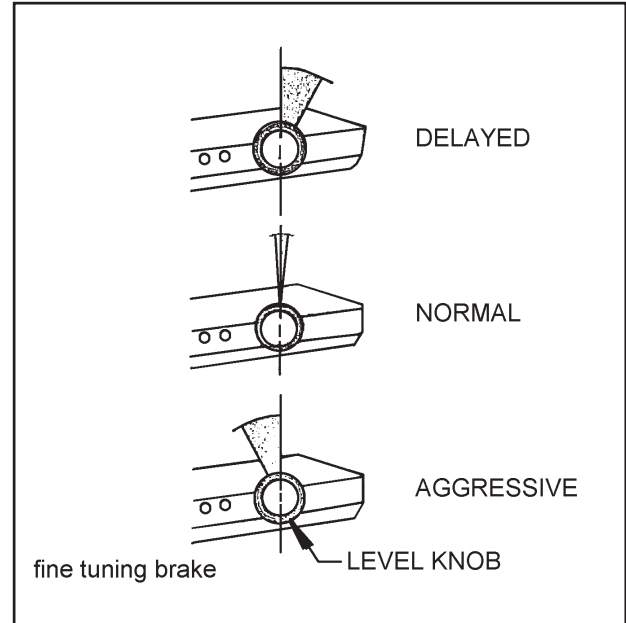

Figure 3-16 Fine Tuning Brake
- **IF BRAKES GRAB TOO MUCH: YOU HAVE AN AGGRESSIVE SETTING. TO CORRECT THIS CONDITION, ROTATE LEVEL KNOB CLOCKWISE, TOWARD YOU (SEE FIGURE 3-16).**
- **IF TRAILER TENDS TO PUSH TOWING VEHICLE: YOU HAVE A DELAYED SETTING. TO CORRECT THIS CONDITION, ROTATE LEVEL KNOB COUNTER-CLOCKWISE, AWAY FROM YOU (SEE FIGURE 3-16).**